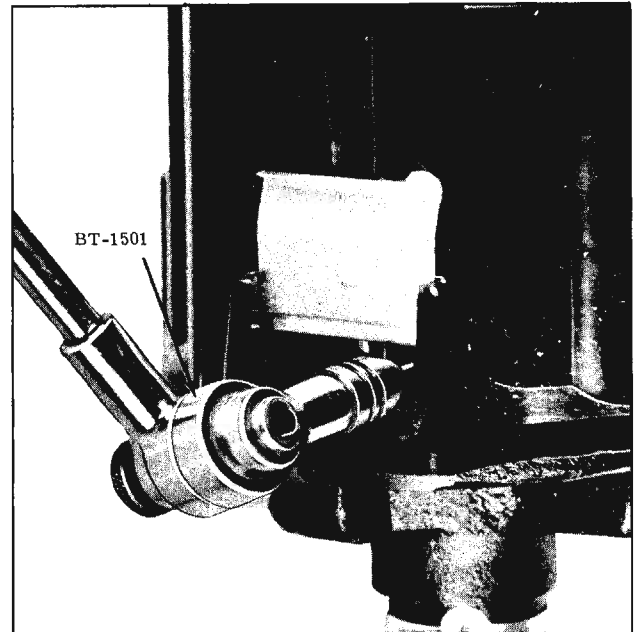

Fig. 14-43 Adjusting Dwell Angle
4. With the engine running at idle speed, insert Dwell Adjusting Tool BT-1501 into the head of the adjusting screw as shown in Fig. 14-43 and adjust dwell angle to  $30^{\circ}$ .